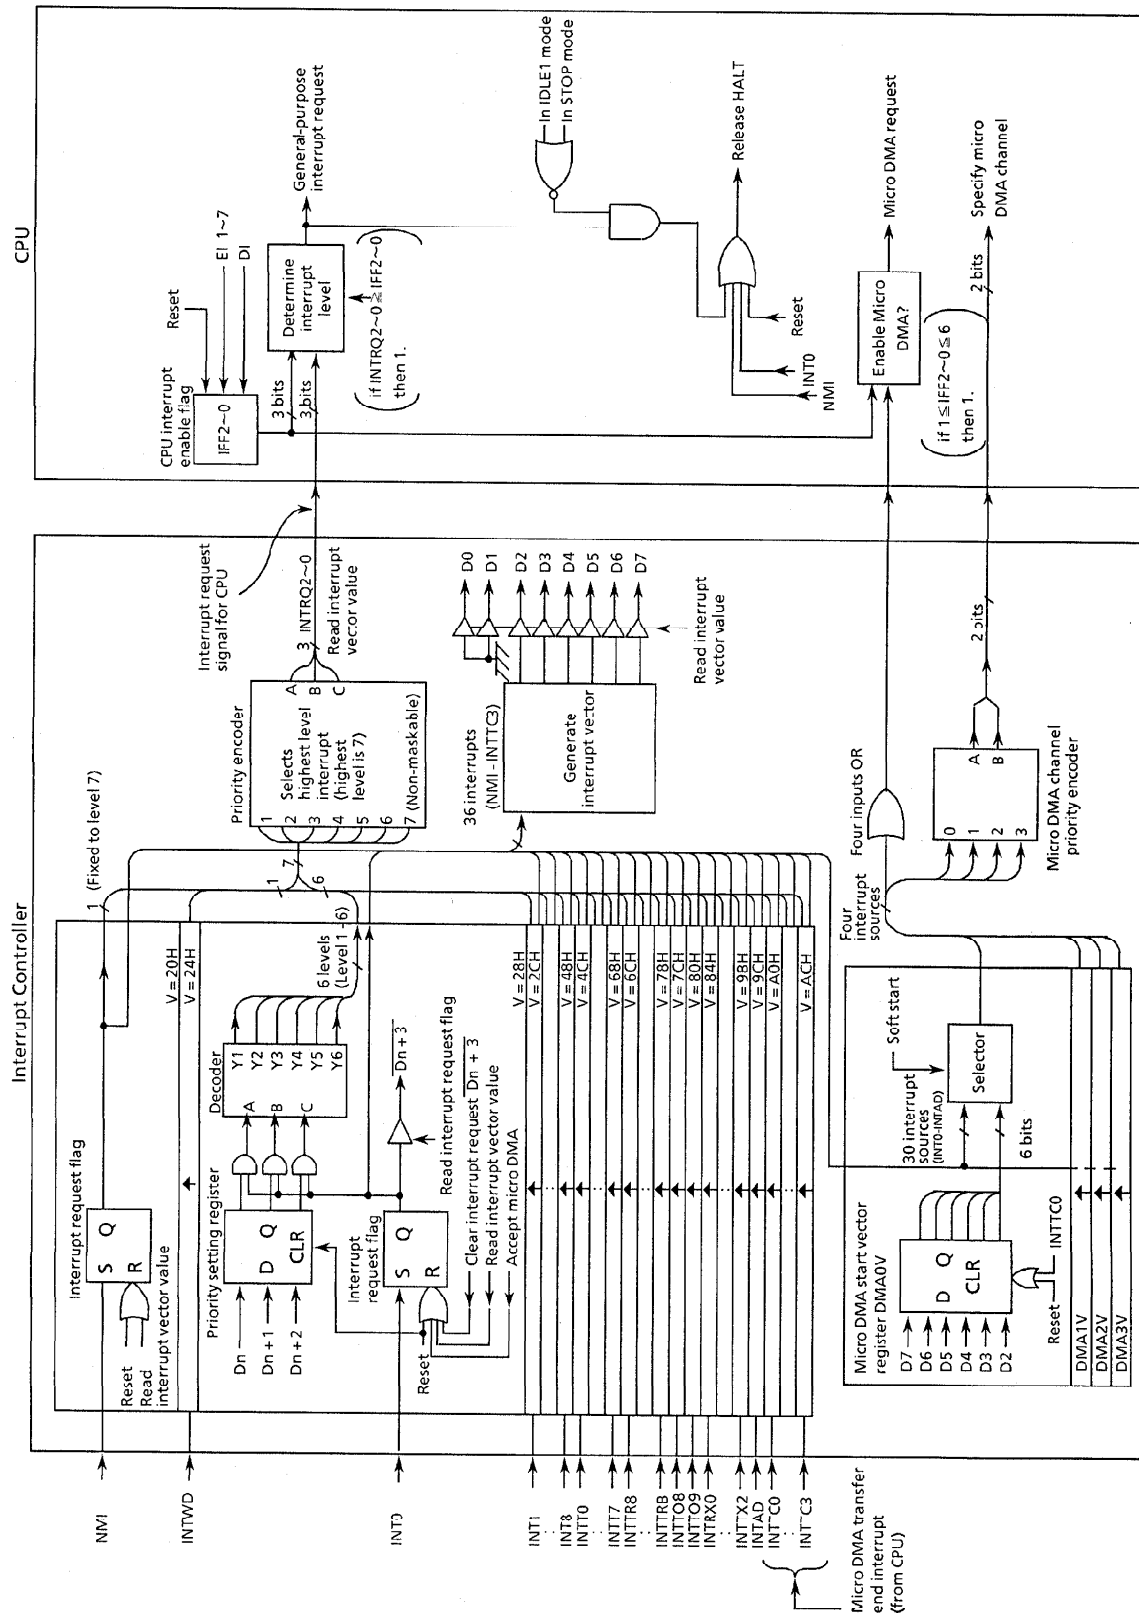

Figure 3.3 (4) Block Diagram of Interrupt Controller
(2) Interrupt Priority Setting Register
Figure 3.3 (5) shows the interrupt priority setting registers. Each of the 34 interrupt channels (INT0 - AD, INTTC0 - 3) has an interrupt request level setting bit <IxxM2:0>. An interrupt request is generated at six interrupt levels (levels 1 through 6). Setting the priority level to 0 (or 7) disables the corresponding interrupt request. The priority level for non-maskable interrupts ($\overline{\text{NMI}}$ pin input) is fixed to 7. If two or more interrupts with the same level occur simultaneously, the interrupts are accepted in accordance with the default priority.